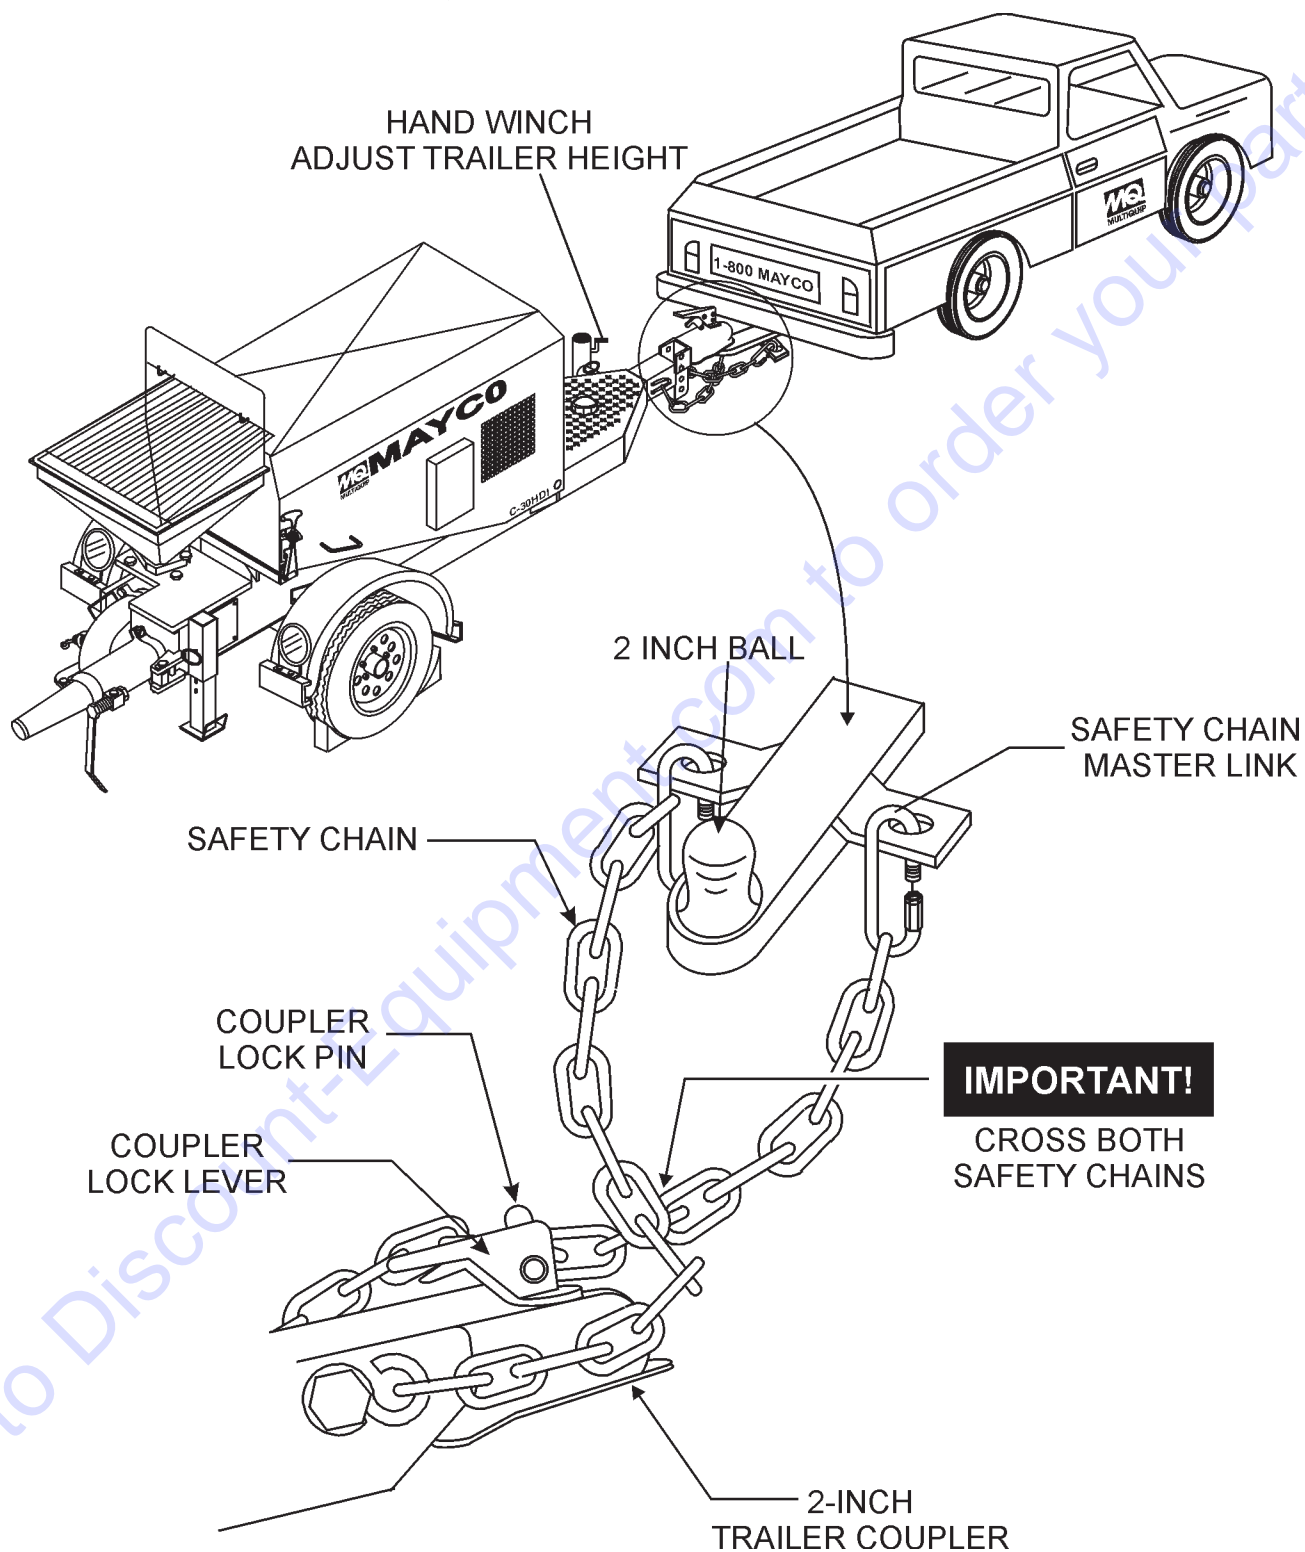

Figure 22. Towing Applications
4. Attach safety chains as shown in Figure 22. Remember to **cross** the safety chains.
Figure 22 shown below illustrates the typical towing application that should be used when towing the pump.